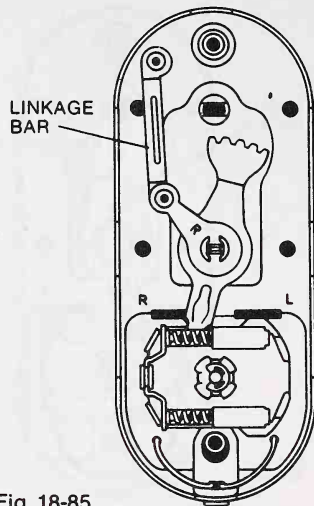

Fig. 18-85.
14. Install the linkage bar (Fig. 18-85).